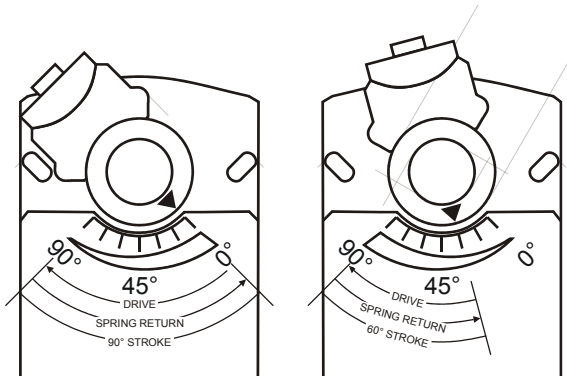

Fig. 5. Stroke reduction
3. Rotate the coupling to the desired fail-safe position, aligning it based on the stroke labeling. See Fig. 5.
EXAMPLE: Setting the shaft coupling to an approx. fail-safe position of 35° (as indicated on the housing) limits the stroke to 60° (see Fig. 5).